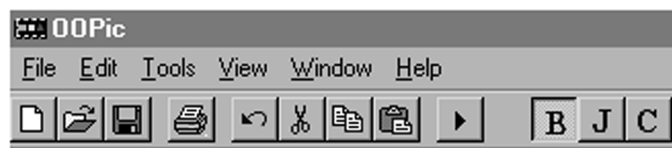

Figure 2-3 OOPic IDE Toolbar
- **Toolbar** This is a default setting. Clicking this selection will enable the toolbar, the one with all the useful buttons on it, to be displayed (see Figure 2-3). Leave this set; it's just too useful.